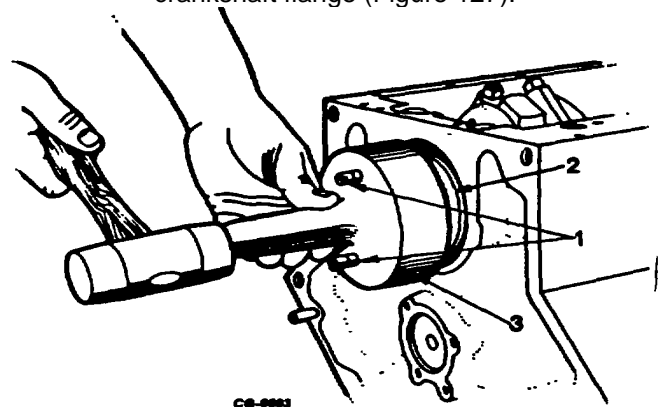
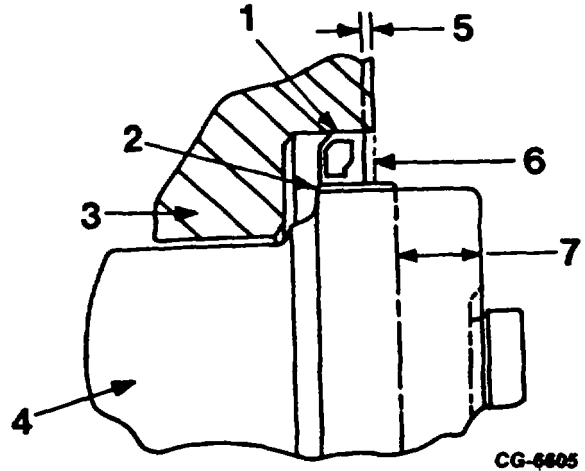

Figure 127. Installing Oil Seal Wear Sleeve
Figure 129. Sectional View Showing Proper Location of Wear Sleeve and Rear Oil Seal
- a. Install aligner studs SE-2092-3 into end of crankshaft flange (Figure 127).
- c. Position installer tool SE-2092-1 over aligner studs (Figure 127) and drive wear sleeve onto crankshaft flange until installer tool seats against crankcase. This will correctly locate wear sleeve (Figure 129).
- (2) Where a new seal is being installed against a used wear sleeve, recess seal into crankcase bore (Figure 129) to allow lip of seal to ride upon unworn surface of wear sleeve. (If wear sleeve shows more than one wear path, replace wear sleeve.)
- (1) Where a new seal is being installed against a new wear sleeve, place seal flush with rear of crankcase (Figure 129).